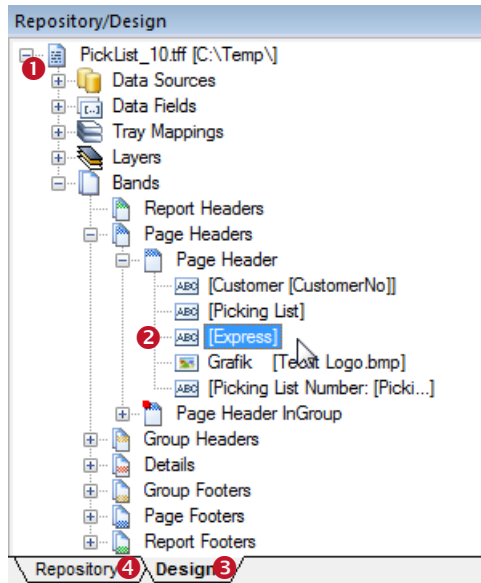

Figure 14: Design Tree Window
To select an object, click on it with the left mouse button. Hold down the *Shift* key or the *Ctrl* key for multiple selection. Figure 14 shows a selected text element (❷), which is located in the page header of a layout called "PickList_10.tff".